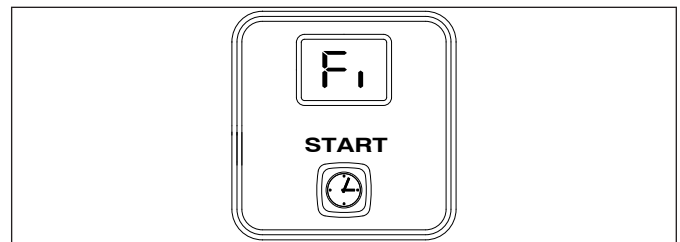

Figure 5. LED Display, Front Panel
1. When Fi (Figure 5) is displayed, press and release the Start button to view the current setting.
2. To make a program change, press and hold the Start button to scroll through settings - release the Start button at the desired setting (Figure 5).